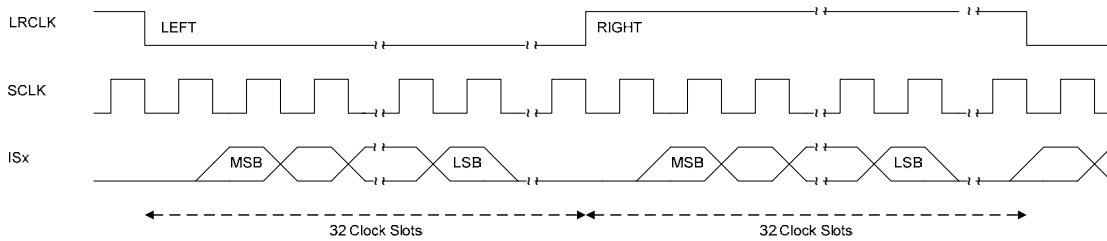
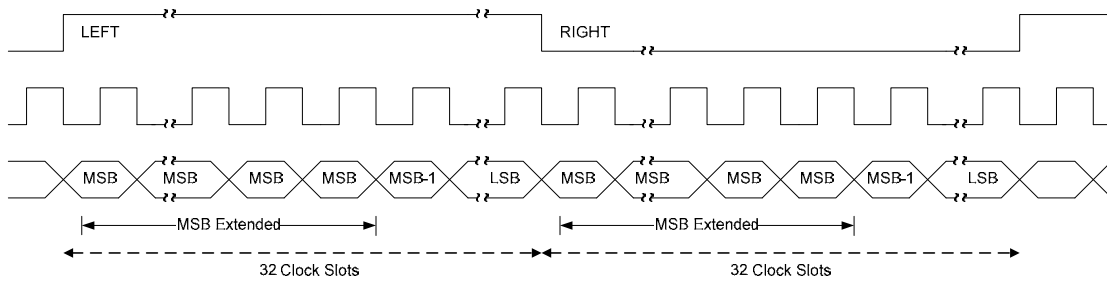
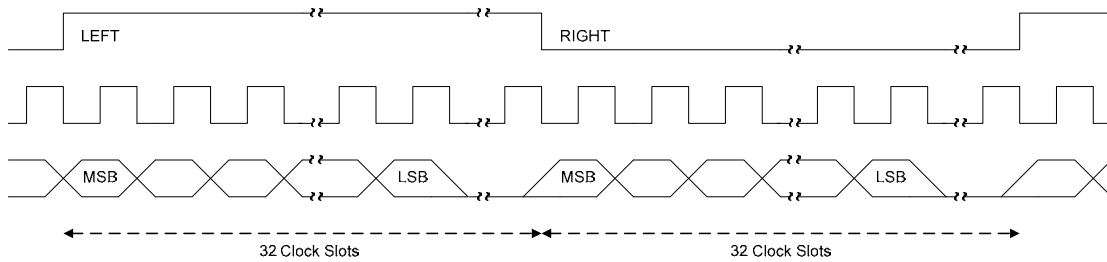

Figure 83: Timing Audio Data Output in I²S Mode
Figure 84: Timing Audio Data Output in Right Justified Mode
Figure 85: Timing Audio Data Output in Left Justified Mode
- L-PCM audio data is output on the audio output pins if the part received audio sample packets with L-PCM encoded audio data. Each audio output pin carries stereo data that can be output in I²S, right justified, or left justified mode (refer to Figure 83, Figure 84, and Figure 85). The I2SOUTMODE[1:0] control must be set to 0x0, 0x01 or 0x2 to output I²S, right justified, and left justified respectively on the audio output pins.
- I2SOUTMODE must be set to 0x0, 0x01, or 0x2 for I²S, right justified, and left justified format, respectively (refer to Figure 83, Figure 84, and Figure 85)
- OVR_MUX_HBR is set to 1, MUX_HBR_OUT is set to 0, and [I2SOUTMODE\[1:0\]](#) is set to 0x0 for an I²S mode binary stream (refer to Figure 83).
- OVR_MUX_HBR is set to 1, MUX_HBR_OUT is set to 0, and I2SOUTMODE is set to 0x1 for a right justified stream (refer to Figure 84)
- OVR_MUX_HBR is set to 1, MUX_HBR_OUT is set to 0, and I2SOUTMODE is set to 0x2 for a left justified stream (refer to Figure 85)